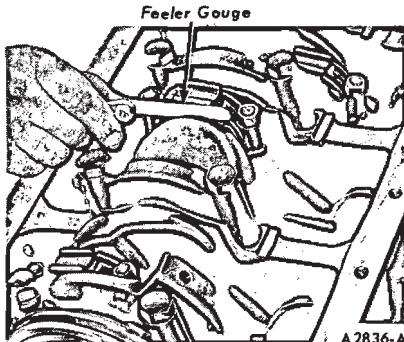

FIG. 33—Checking Connecting Rod Side Clearance
8. After the piston and connecting rod assemblies have been installed, check the connecting rod side clearance on each crankshaft journal (Fig. 33).